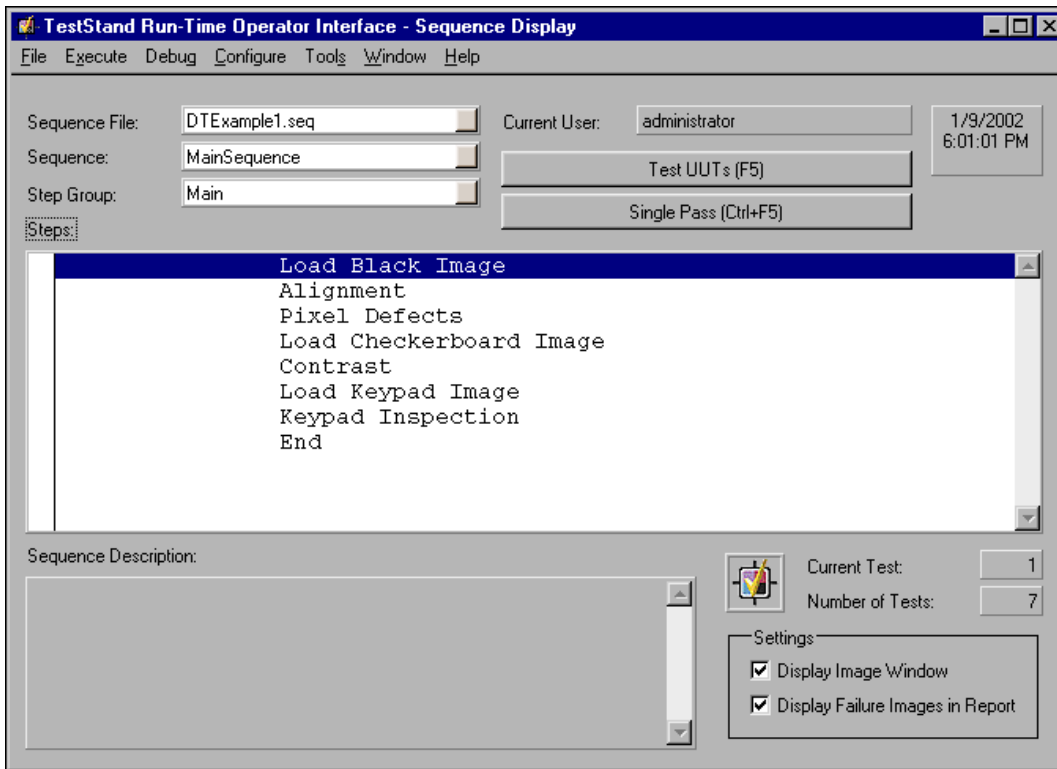

Figure 3-3. Example Sequence Loaded in Operator Interface
2. Double-click DTexample1.seq to open the sequence file. The operator interface window appears, as shown in Figure 3-3.